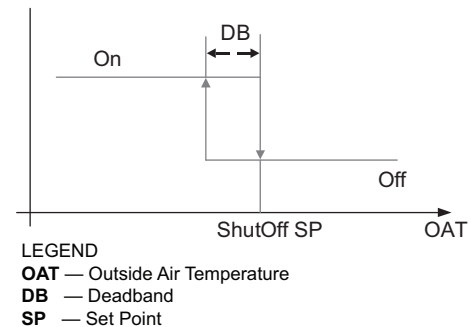

Fig. 73 — Hysteresis Settings
Hysteresis setting (DB) defaults to 2°F (–17°C). See Fig. 73.